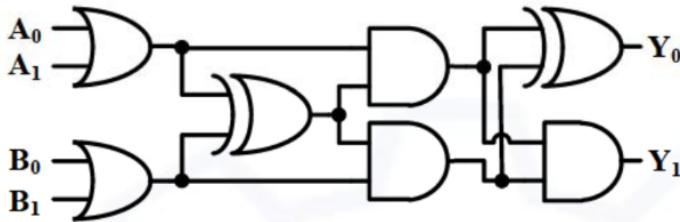

Fig. 4.27
45. In the circuit shown below in Fig. 4.27, Y is a 2-bit ($Y_1 Y_0$) output of the combinational logic. What is the maximum value of Y for any given digital inputs, $A_1 A_0$ and $B_1 B_0$?